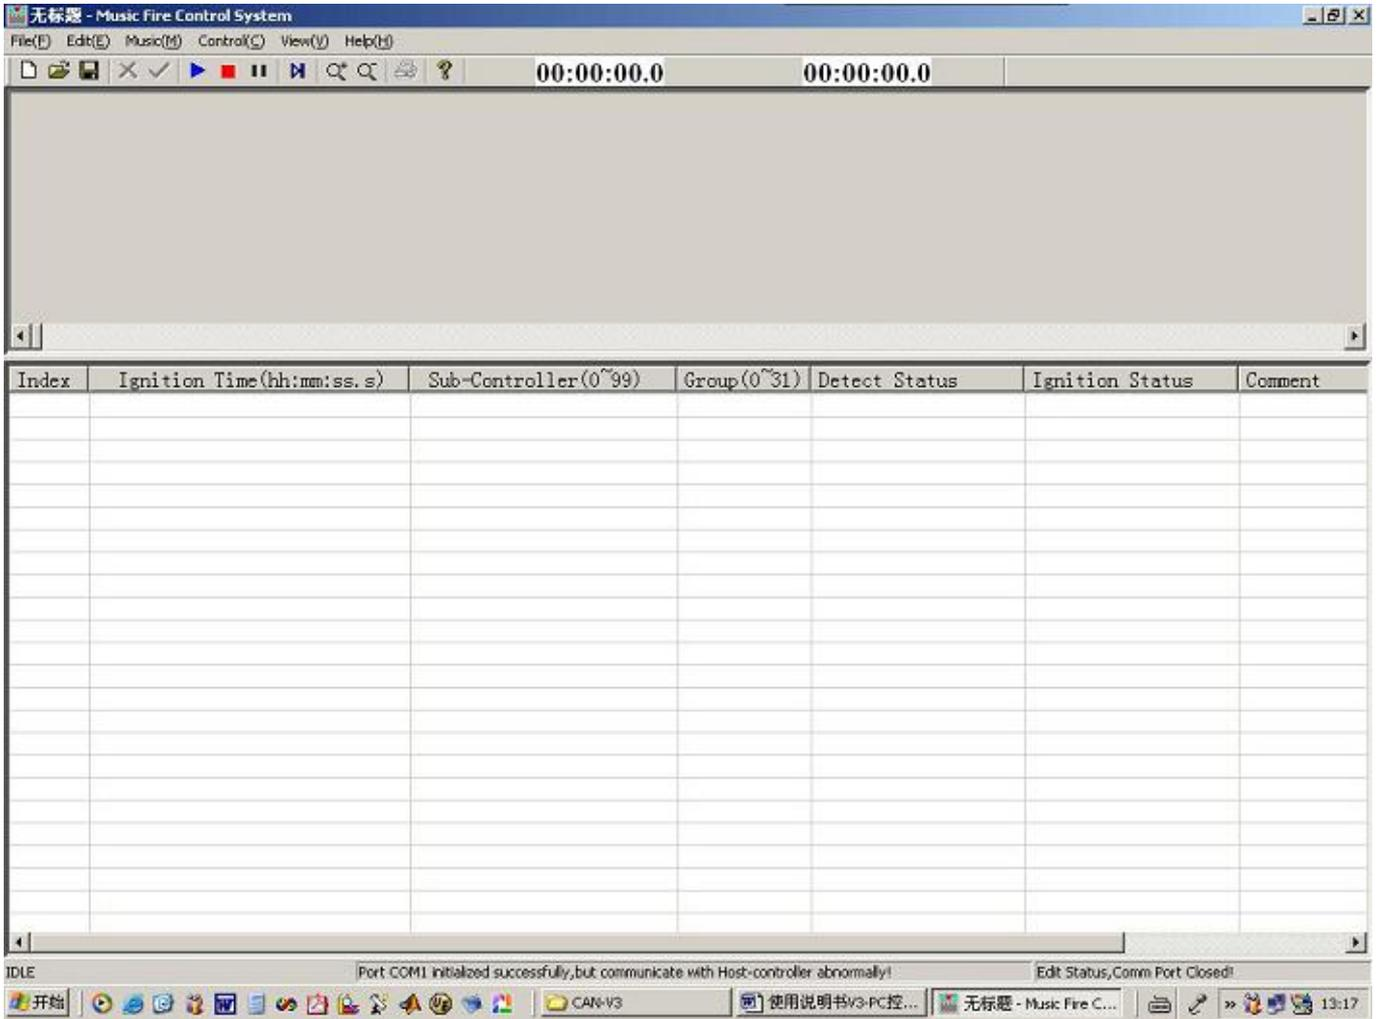
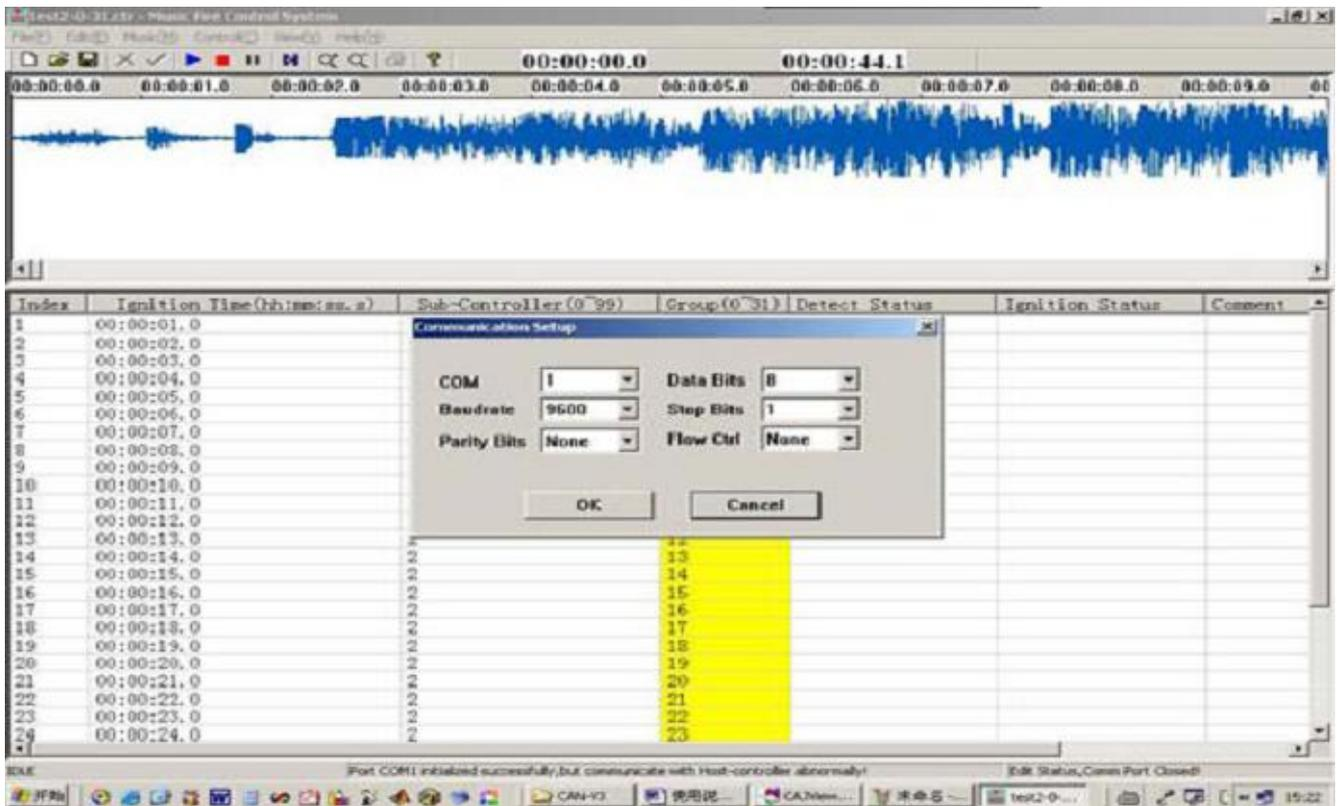

fig 13 Control Interface
fig 33 Communication Setup
2. The control Interface show in fig 13. The communication port status and the status of connected to host-controller will display in the status bar below the interface, the status of control software will show in the status bar also(Edit Status). If the communication port initialized failure, please follow the fig 33 to configure the communication.
4. Click the menu “Control” → “Communication Setup”, a dialog show as fig 33 will popup, in this dialog select the COM port “1”, then, the program will use the COM1 to communicate with the host-controller. In General, only alter the number of COM port is enough, others option not needed alteration.
- (1) The COM port is not exist, please follow the fig 33;